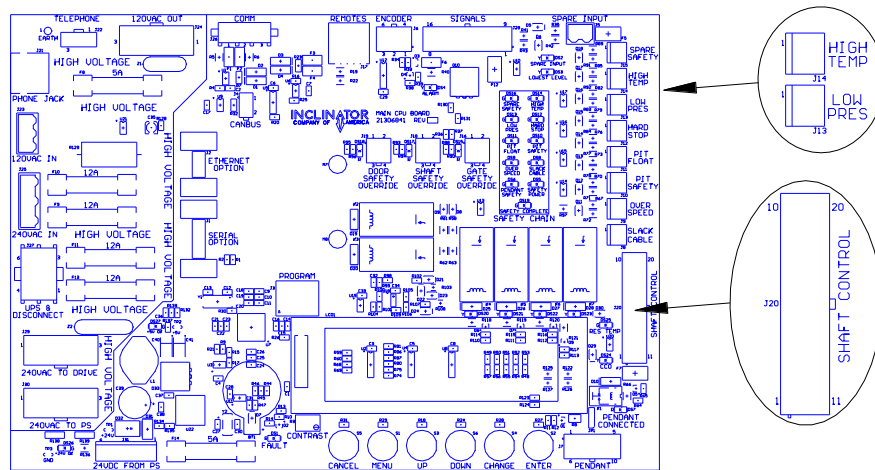

Figure 13 - CPU Board, Pump Control Enclosure Signal Cable Connections
3. Connect the Pump Control Signal Cable 20 Position connector to J20- "Shaft Control" connector on the CPU board. See Figure 13.
4. Connect the Pump Control Signal Cable 2 Position connector labeled 'T' to J14- "High Temp" connector on the CPU board. See Figure 13.
5. Connect the Pump Control Signal Cable 2 Position connector labeled 'P' to J13- "Low Pres" connector on the CPU board. See Figure 13.